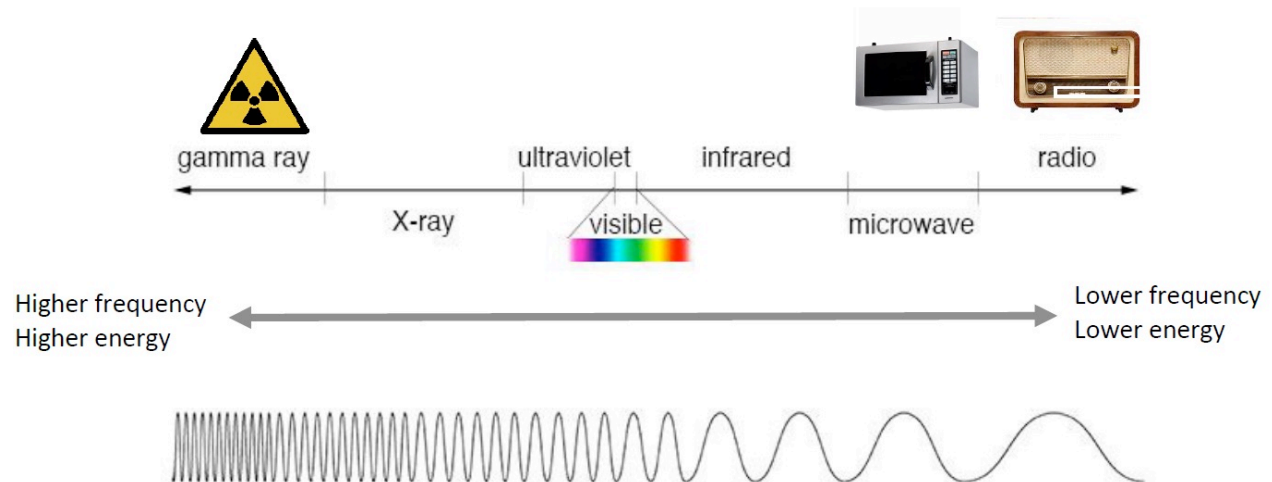

Figure 1.3
It is important to understand that radio frequency (RF) operates at a very low frequency (27.120 ± 0.163 MHz), which is similar to a mobile phone or a transistor radio (Figure 1.3). Ziel Equipment, is designed to harness and control those gentle waves and apply them to a very specific and regulated cavity in the RF machine.
of RF waves to other waves and frequencies on the spectrum is illustrated in Figure 1.3.